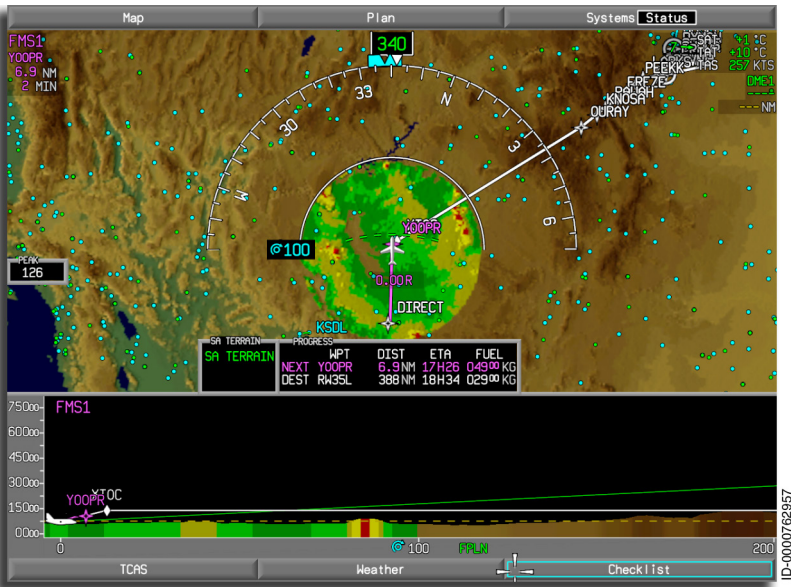

Figure 6-16
- SA Terrain** – Situational awareness terrain information is displayed on each MFD when selected for display. Terrain information consists of terrain images retrieved from the terrain database, mode annunciation, and peak information. The situational awareness terrain display is constructed by generating a bitmap with colors assigned based on the comparison between aircraft altitude and the five different altitude level data provided by the enhanced ground proximity warning function (EGPWF). The terrain image is displayed in the map area using varying colors to distinguish terrain altitude, as shown in Figure 6-16. SA terrain is described in detail in Section 20, Enhanced Ground Proximity Warning System (EGPWS).